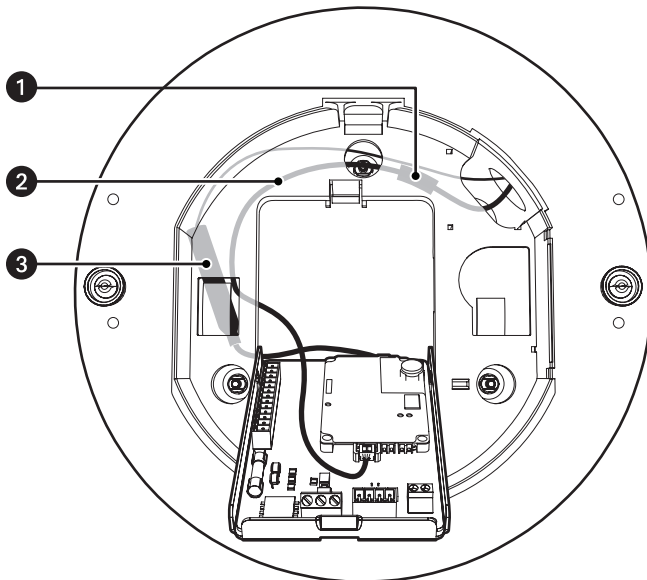

Figure 6. Routing the Cables
7. Before closing the interconnect door, ensure that no wires are between the top of the heat sink standoff and the back box. Both the video coaxial cable and the Ethernet cable need to be routed carefully to ensure clearance for the heat sink standoff. Refer to Figure 6.